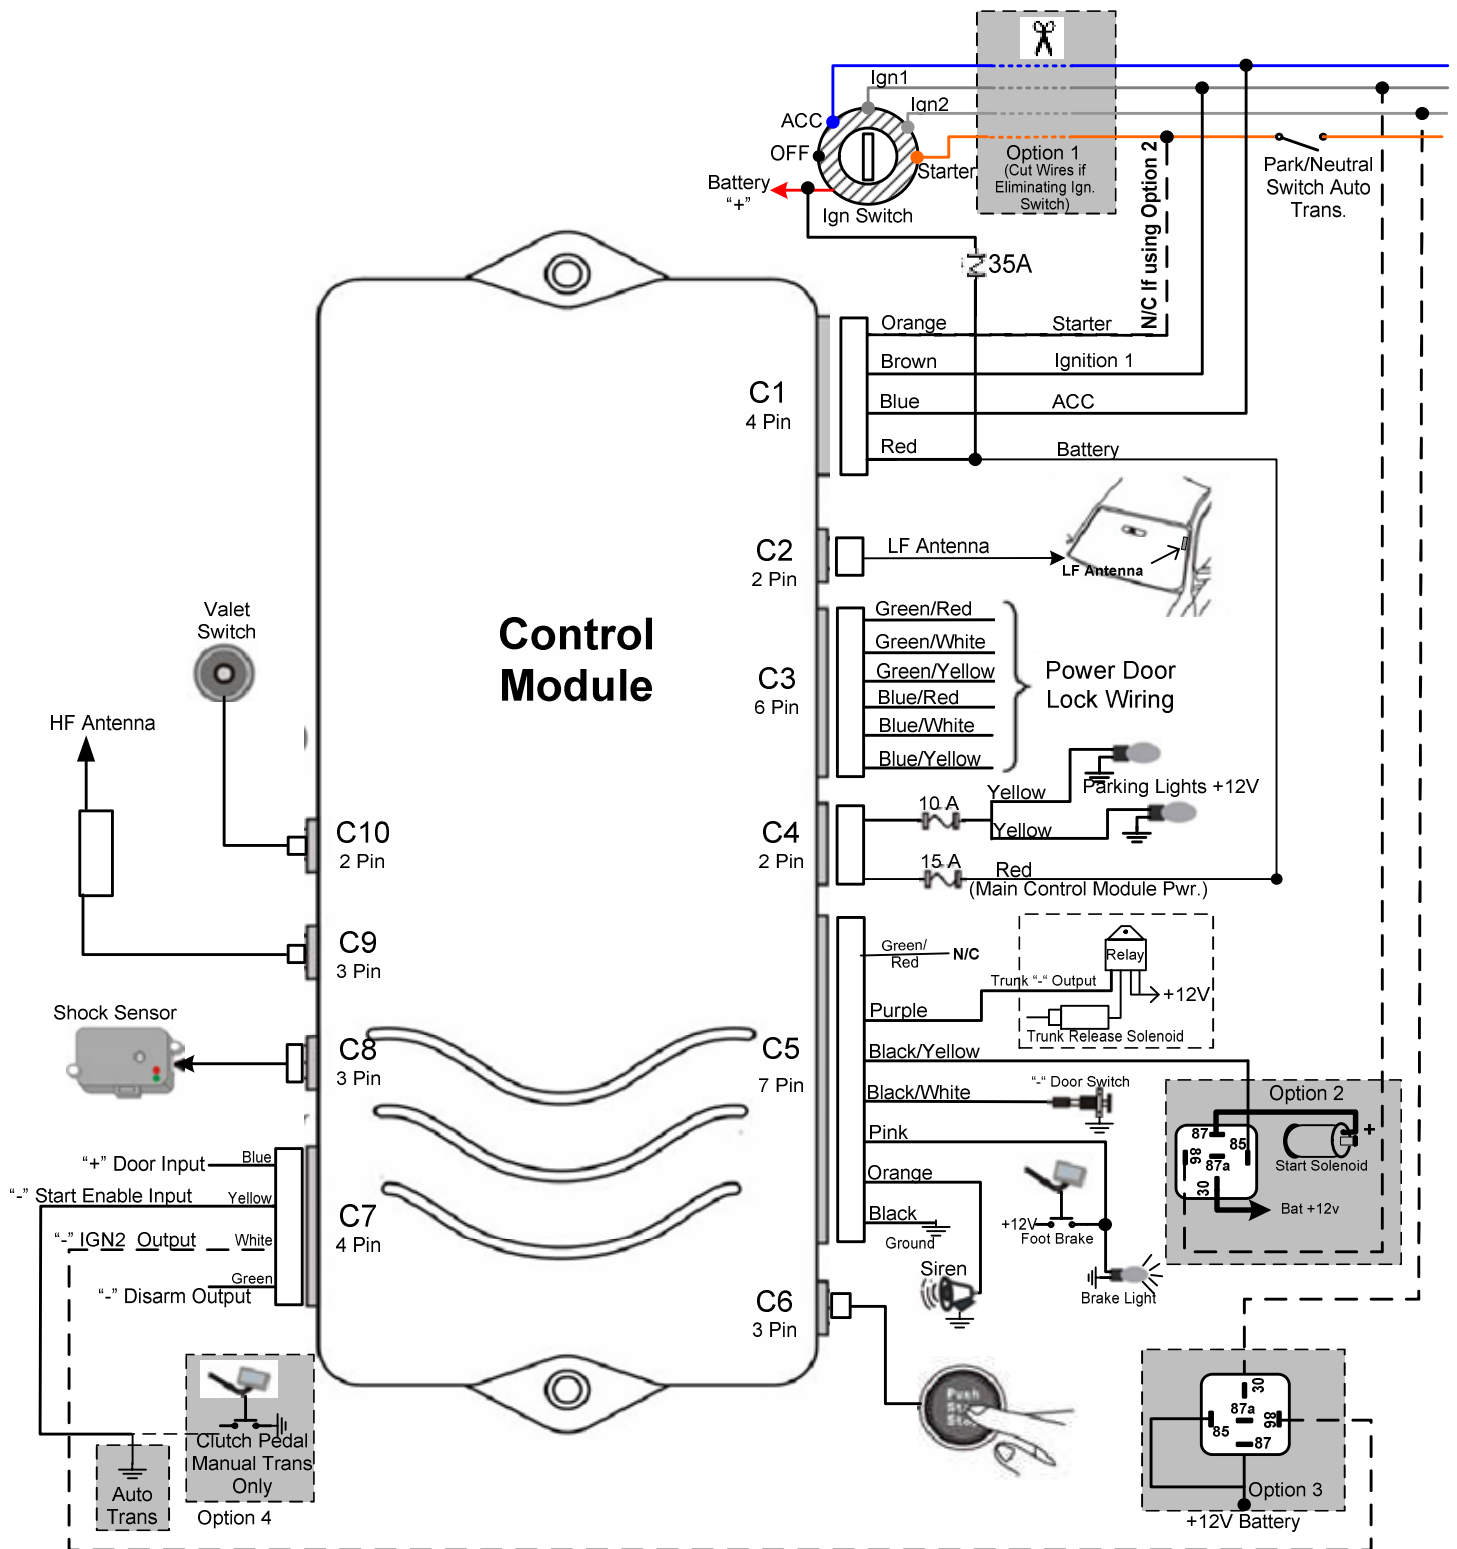

Figure 1
Automatic / Manual Transmission: Determine if the vehicle has an automatic or manual transmission. Set the “Automatic / Manual Transmission” function accordingly. See **Figure 1. Option 4**
SEE Figure 1 For Location and Identification of GTStarter-2 Control Module Connectors.
IMPORTANT: Read Figure 1. Option 1 before cutting any ignition switch wires.
Plug in the 2 pin LF antenna into the Control Module indicated in **Figure 1**.
C5:BLACK/YELLOW – Optional high current starter solenoid relay. See Figure 1. “Option 2” above for connection.
C8: Shock Sensor – The shock sensor should be mounted on a rigid member of the vehicle. Typically it is best attached to the steering column. The shock sensor should never be mounted on the outside of the vehicle where it is not protected from exposure to moisture. Connect the 3 Pin connector to both the shock sensor and the Control Module as shown in **Figure 1**.
C9: - HF Antenna – The HF antenna is used for the high frequency receiver that operates the remote access functions such as remote door locking, car locating, and anti hi-jack. The location is not all that critical because of the type of antenna that we use, therefore the antenna can be placed anywhere under the dash and out of sight. Caution should be taken as the antenna wip is metal and the installer should insure that the wip will not interfere / short out any under-dash wiring. Connect the 3 Pin connector to the Control Module as shown in **Figure 1**.
C10: Valet Switch – The Valet Switch should be mounted under the dash or in the glove box so that it can be accessed from time to time to change or modify the programmable functions of GTStarter 2. Connect the 2 pin connector to the Control Module as shown in **Figure 1**.
Automatic transmission: Press and hold the “**Push Start Stop**” button without pressing the brake peddle, making certain that the vehicle will not start. The engine should only start when the brake is pressed and the vehicle is in Park or Neutral. If the engine starts without the brake peddle being depressed, then the wiring connections to the Control Module and the connections to the Park Neutral switch must be rechecked per Figure 1.
Manual Transmission: Press and hold the “**Push Start Stop**” button without pressing the clutch peddle, making certain that the vehicle will not start. The engine should only start when the clutch peddle is pressed. If the engine starts without the clutch peddle being depressed, then the wiring connections to the Control Module must be rechecked per Figure 1.
1. Check Ignition switch wiring. See Sec. 1.6 “Installing Connector C1. Some vehicles require 2 separate ignition wires Ign 1 and Ign 2 for the vehicle’s ignition system to function properly. If the vehicle requires both Ign 1 & Ign 2 then follow the instructions in **Figure 1. Option 3**.
- a.) Check the connections of C1: wire harness for the correct connection points. See **Figure 1**. There are usually only two positions on the ignition switch which disconnect power to the accessories during engine cranking. ACC and/or IGN 2. In some vehicles IGN 2 is used for either accessories like the heater fan, or is some times used as an additional ignition system wire. Check the specific wiring diagrams for your Make, Model, and Year vehicle. These can be found at www.gallotech.com/support.php.